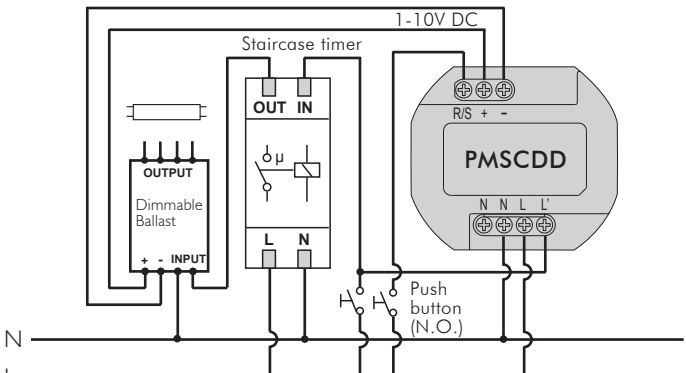

FIG.6
- 3.3.1.2 Staircase timer switch controlled by one detector (Time should be set to √sL, see FIG.6)